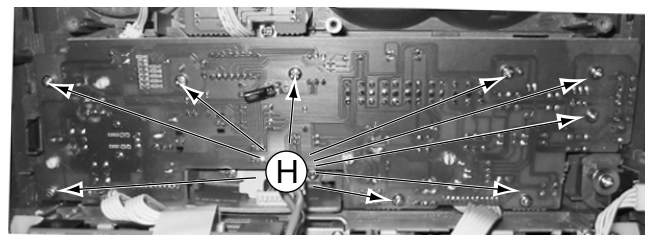

Figure 9
- 3) Loosen 9 screws ' H ' to remove the VFD Board figure 9.